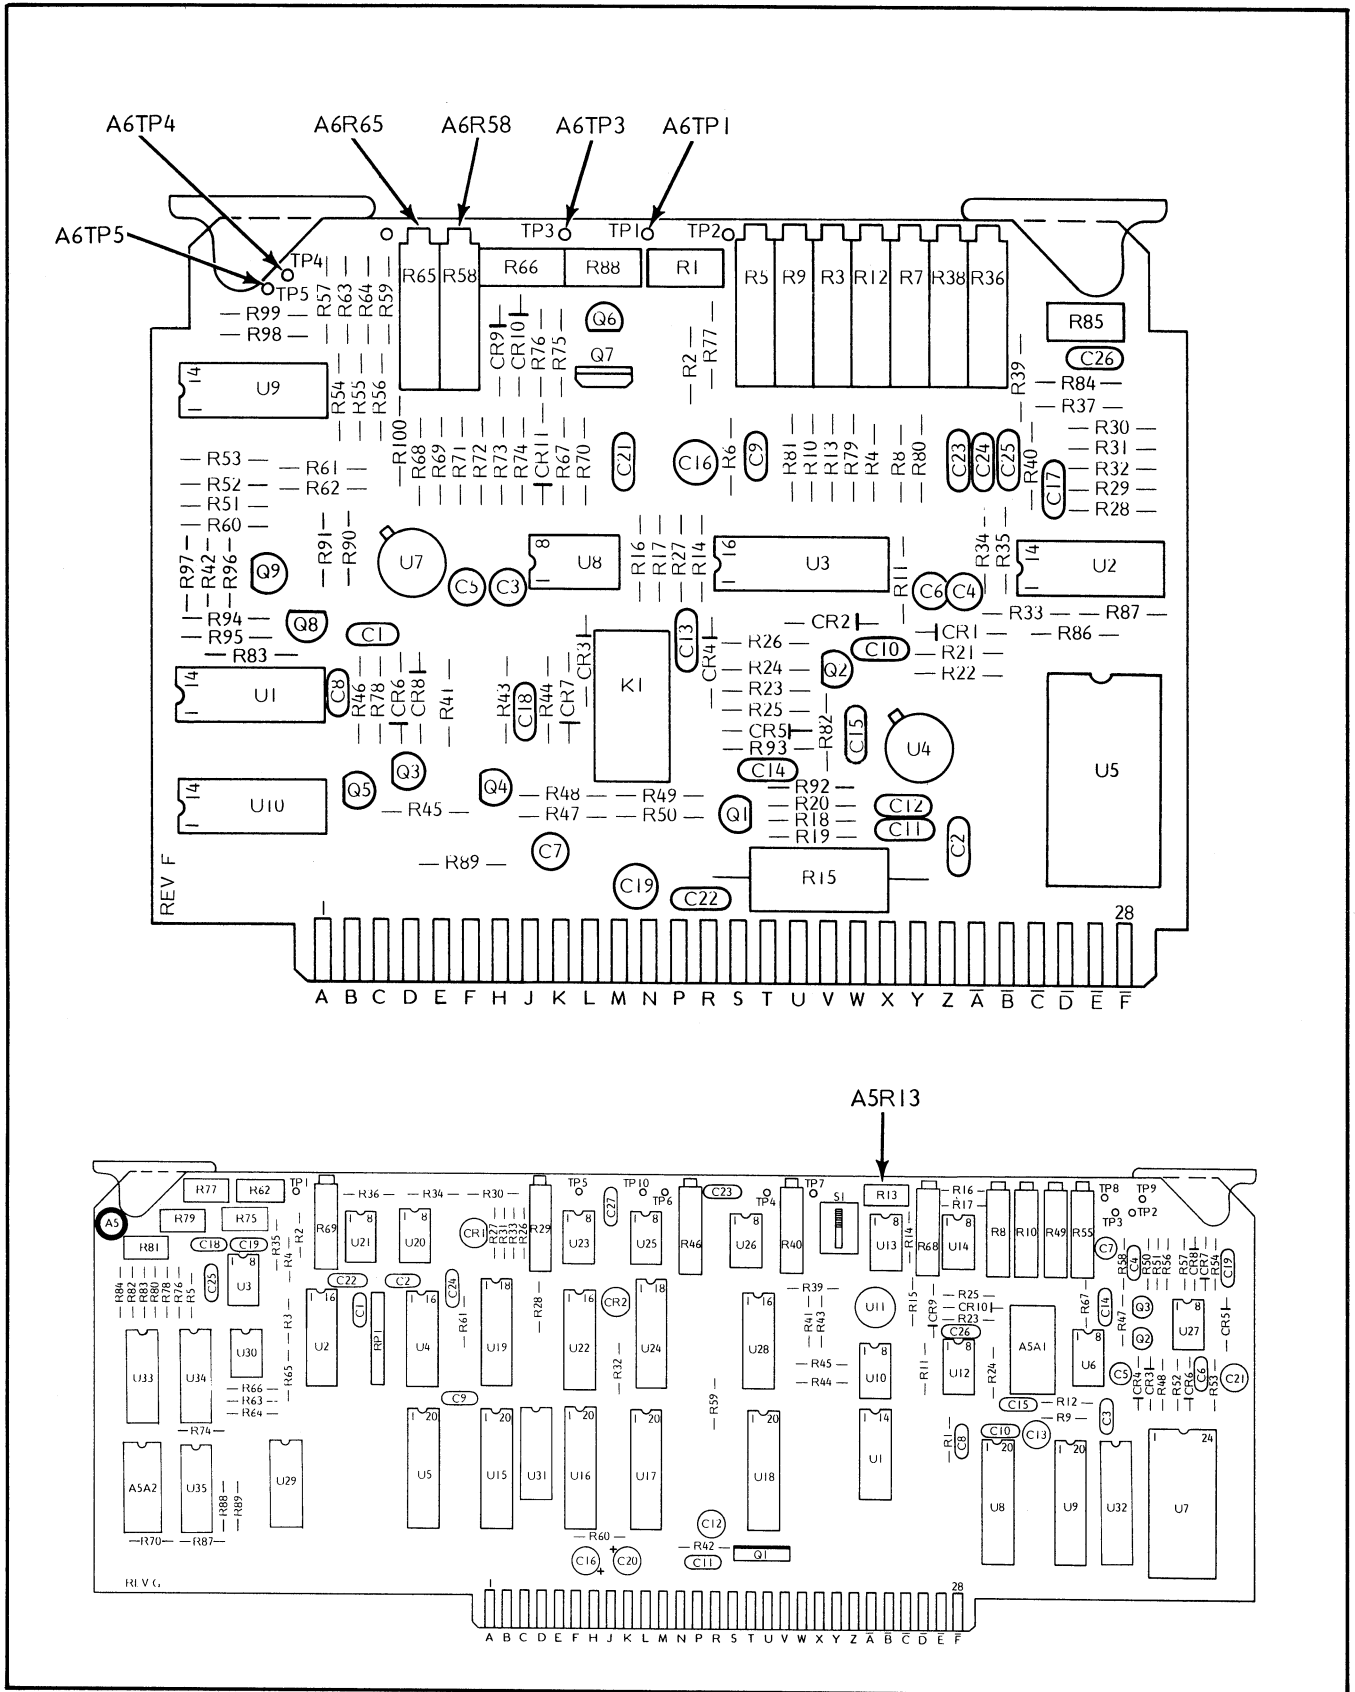

Figure 5-19. A6 YIG Driver Adjustments
3. Connect the DMM test lead to A6TP5; connect the common lead to A6TP1 (Figure 5-19).
- (a) Connect the digital multimeter (DMM) test lead to A6TP3 (Figure 5-19); connect the common lead to A6TP1.